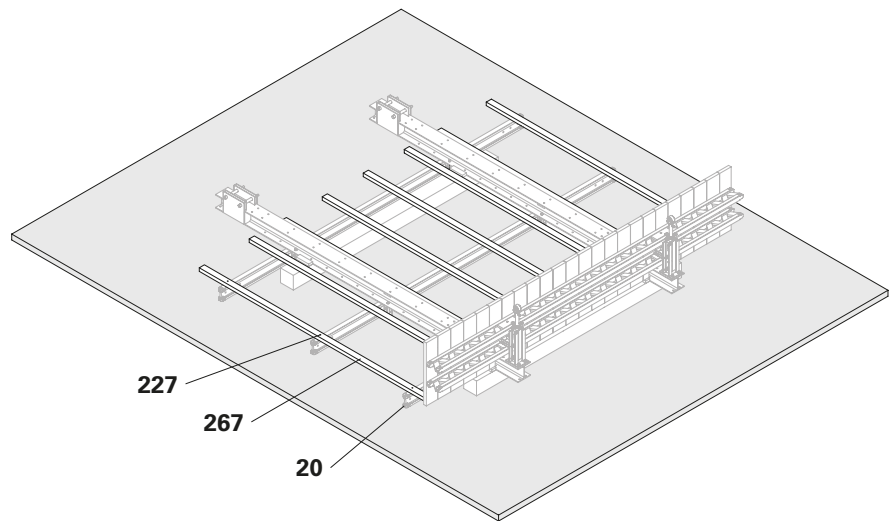

Fig. B9.11
1. Screw the counter-batten (**267**) onto the Girder VT 20 (**20**) with Torx 6 x 100 (**227**). (Fig. B9.11)